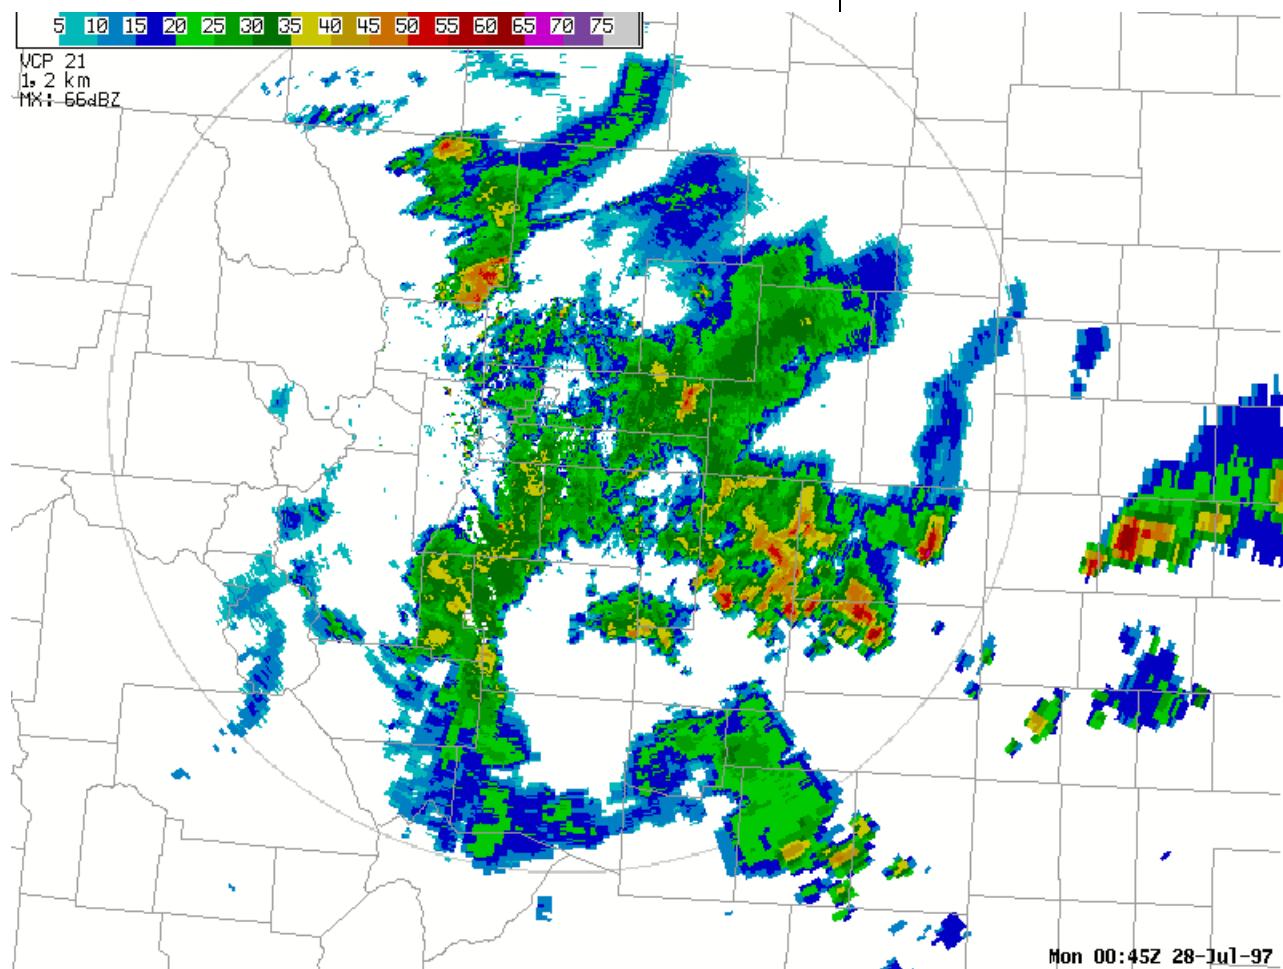

Figure 1-3. Example of displayed resolution differences on a Base Reflectivity product. The 0.54 nm and 1.0 nm resolutions are displayed.
0.54 nm data values. See Fig. 1-3 for an example of a Base Reflectivity product.
Data levels are in dBZ, and are displayed using lower bound thresholds. This means that the numbers beside the color bar in the annotations area of the product are the lowest dBZ values for each color. In Fig. 1-3, the color labeled 35 dBZ can actually range from 35-39 dBZ.